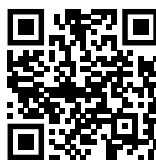

Fig. 185
- ▶ Aprire la Liebherr SmartMonitoring Dashboard. (vedere Fig. 185)